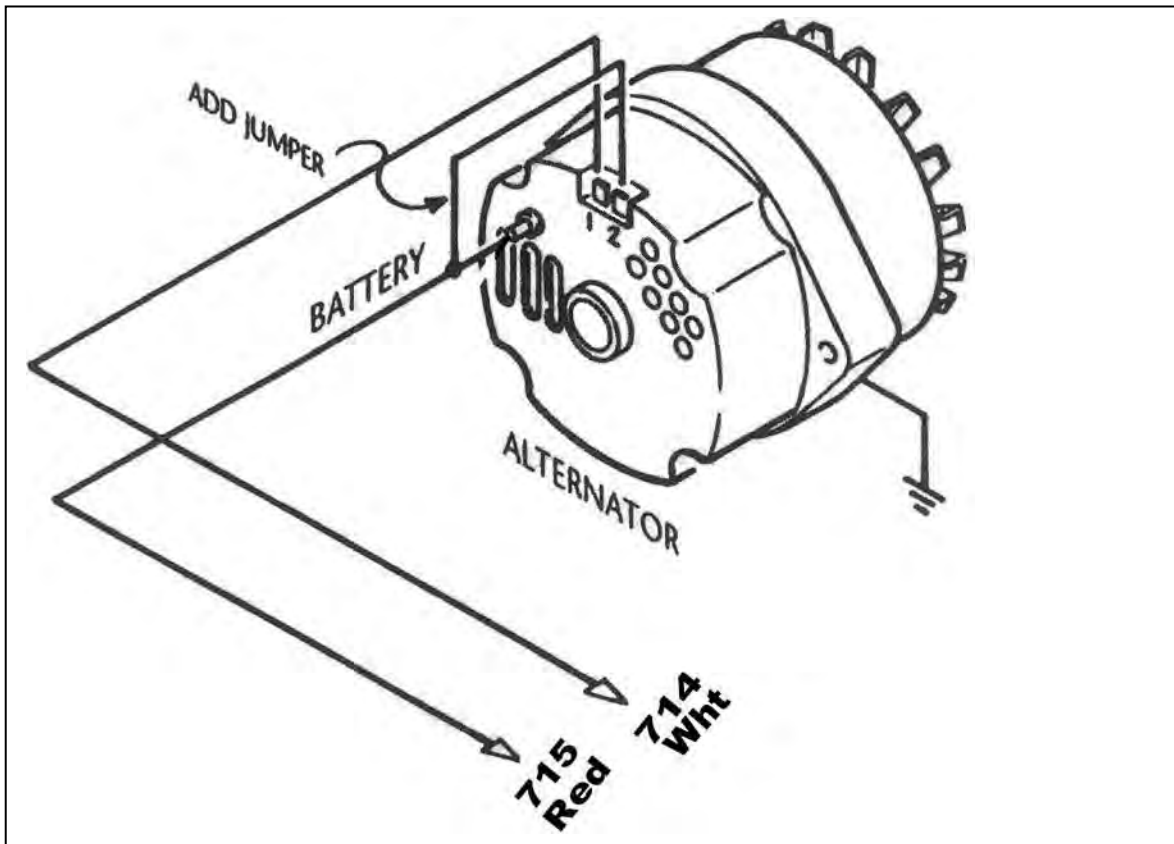

Figure 8.6 Delco Alternator (Internal Regulator)
8.2.2 Delco Alternator – Internal Regulator. See Figure 8.6.